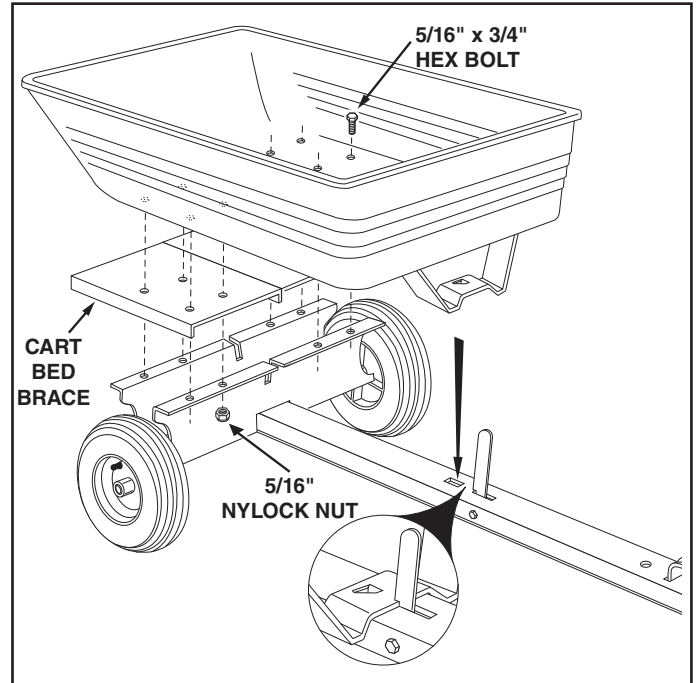

FIGURE 5
- Place the cart bed braces and the cart tray onto the wheel support. Secure latch stand bracket underneath the tongue's latch lock lever. See figure 5.
- Assemble the cart tray and cart bed braces to the wheel support using eight 5/16" x 3/4" hex bolts and 5/16" nylock nuts. Tighten nuts after all bolts are in place. See figure 5.